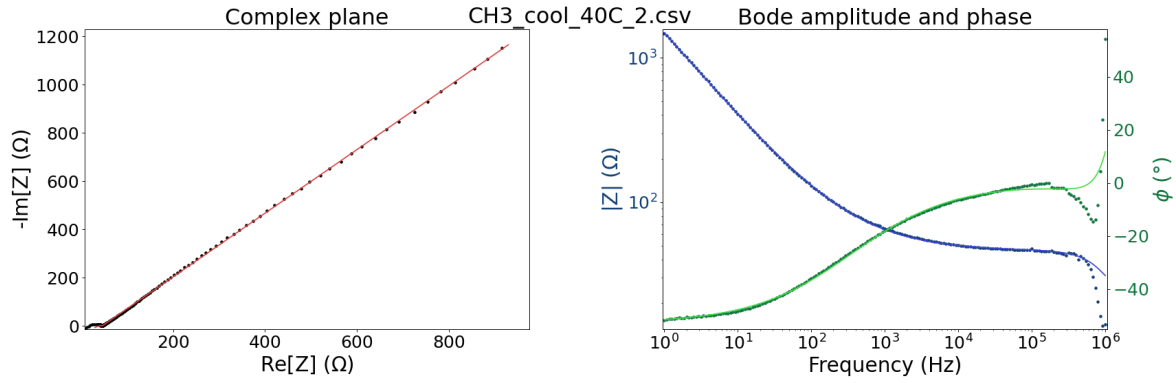

Figure 19: Manual adjustment to the $\text{RbOH} \cdot x\text{H}_2\text{O}$ spectrum.
8. The amplitude shoulder on the right-hand side looks as if it could be better captured by the model, although we know to doubt this feature due to the Z-HIT analysis. By selecting **C0** in the parameter list box and pressing **Adjust controls**, the slider can be moved to the right to slightly improve the fit. Figure 19 results.